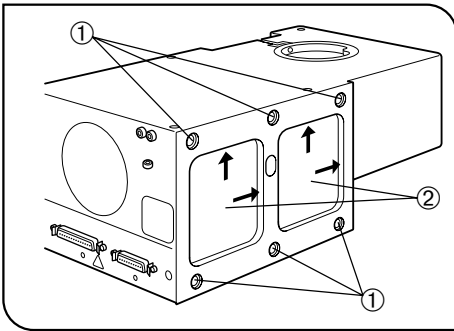

Fig. 18
(Figs. 18 & 19)
- Stop the 6 screw holes ① (Fig. 18) on the left side panel with the provided seals to prevent leakage of light and penetration of dust.